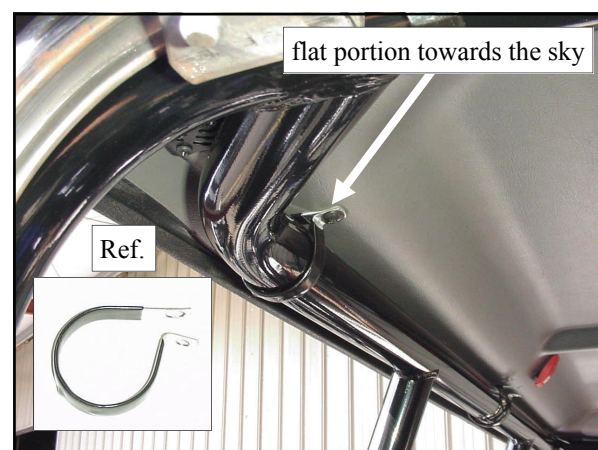
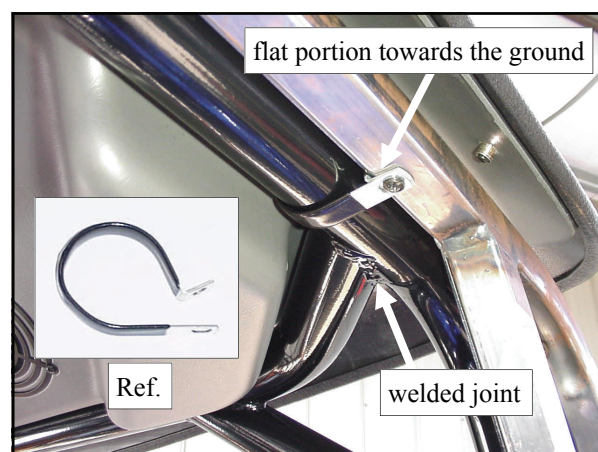

Fig. 2.1 View from passenger's side
Fig. 2.1.1 View from passenger's side
2.1 Install a total of seven (7) "P" clamps as follows: per fig. 2.1, place three (3) clamps on the rear tubular frame oriented as shown. One in the center of the tubular frame and one per side on the outer edges. Per fig. 2.1.1, install two (2) clamps on each side tubular frame oriented as shown. The front most clamp can be close to the front welded joint and the rear most clamp can be 13" behind the front one. Hardware will be installed in step 6.2.